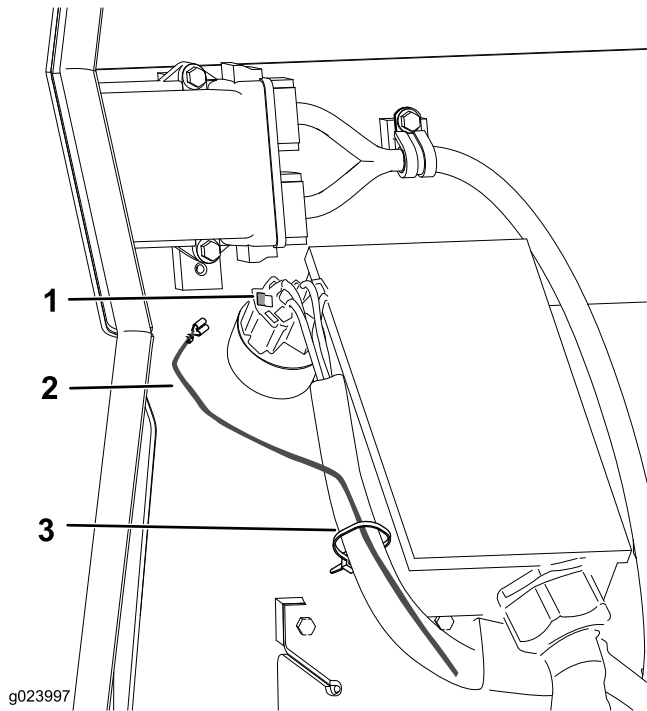
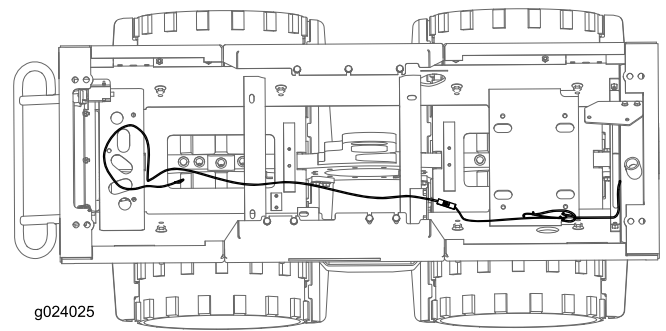

Figure 1
Figure 2
2. Install the non-insulated terminal of the long wire to pocket 8 of the connector (Figure 1).
4. Route the wire from the connector along the existing wiring harness, and secure the wire to the existing wiring harness using the cable ties (Figure 1 and Figure 2).